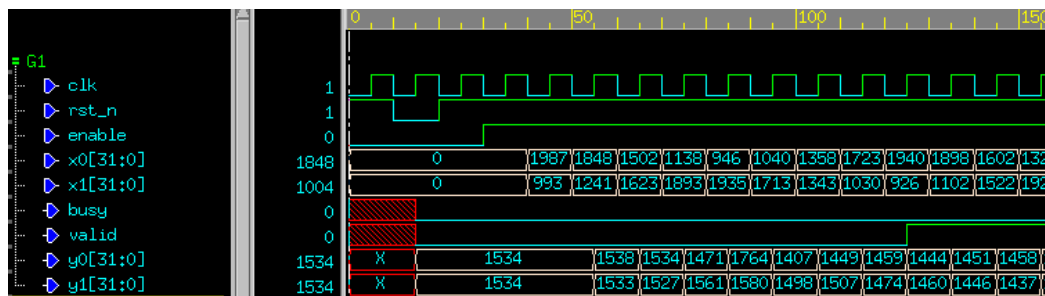

Figure 4. Waveform of parallel architecture.
- Figure 4 is the waveform of parallel architecture, you can refer to it to check your function correctness.